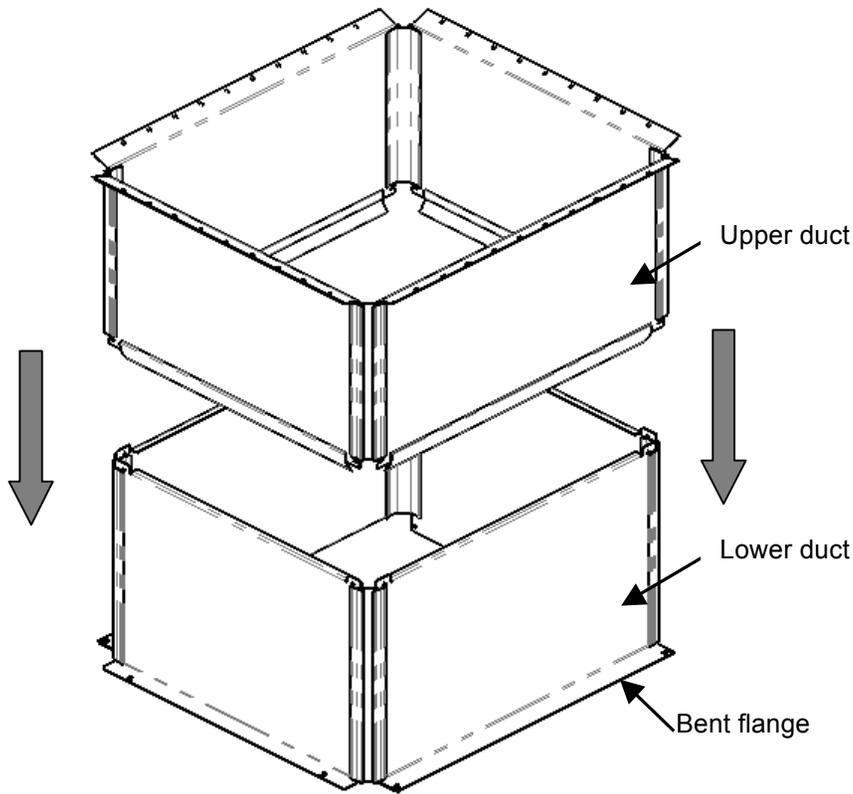

Fig. 1
1. Expand the lower duct and place on the floor as shown, with bent flange: down (Fig. 1).
2. Expand the Upper duct and orient as shown (Fig. 1).
3. Slide the Upper duct over the Lower duct and push down (Fig. 1 & 2).